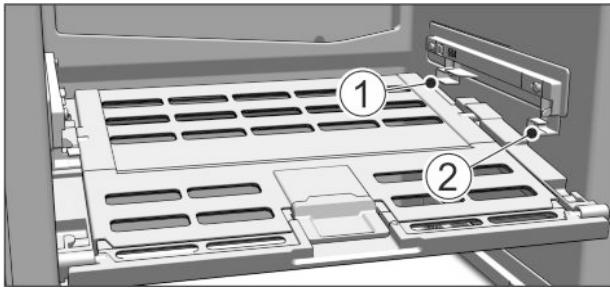

Fig. 17
- ▶ Inserting the Fruit & Vegetable-Safe cover: Insert the guide pieces into the rear retainer Fig. 17 (1) from below, then snap the plate into the retainer Fig. 17 (2) in the front.